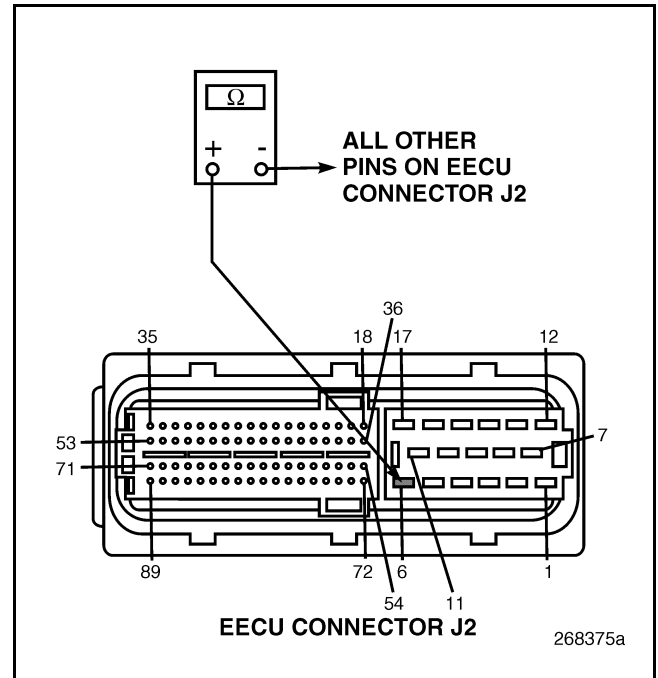

Figure 735
4. Check for continuity between EECU harness connector J2, pin 6 and all other pins on connector J2 (see Figure 735).